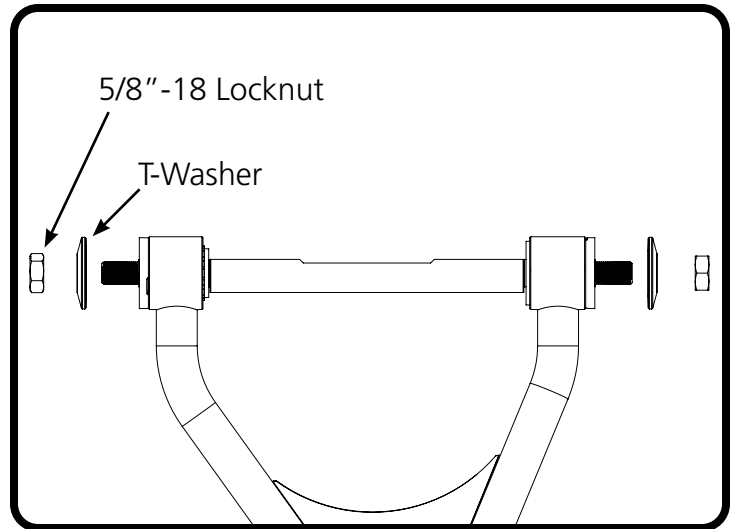

Figure 3
**6.** Install a T-Washer and 5/8"-18 Locknut on each end of the cross shaft (Figure 3).